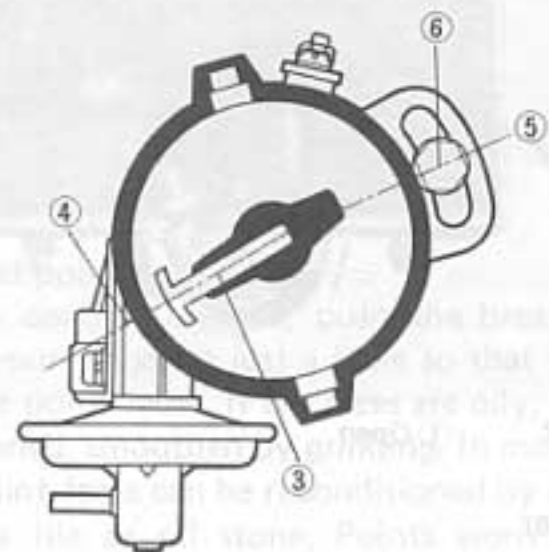

Fig. 9-18
- 2) Remove the distributor cap. Turn the rotor to make the center ③ of rotor flush with mark ④ embossed on the distributor housing, as shown in Fig. 9-18.